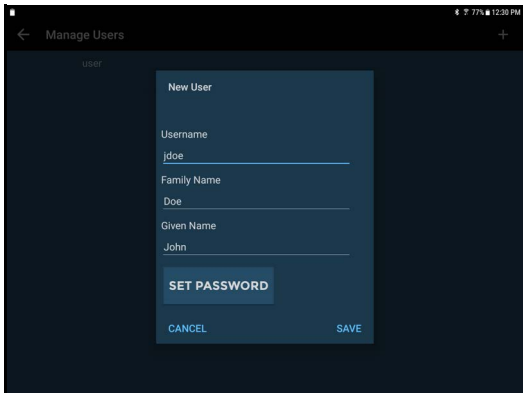

FIGURE 1. Add User
4. Enter a Username, Family (Last) name, Given (First) name, and if required set the password (see FIGURE 1. Add User).